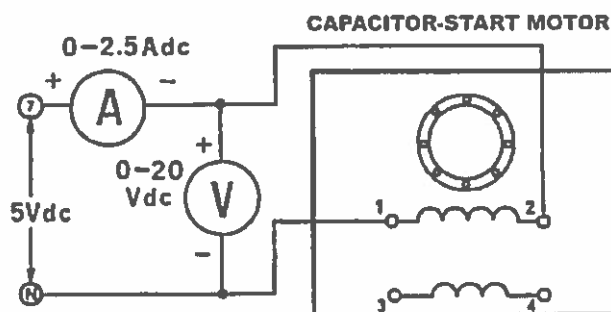

Figure 31-1
- ☒ 6. Using your Power Supply, DC Voltmeter/Ammeter and Capacitor-Start Motor, connect the circuit shown in Figure 31-1.